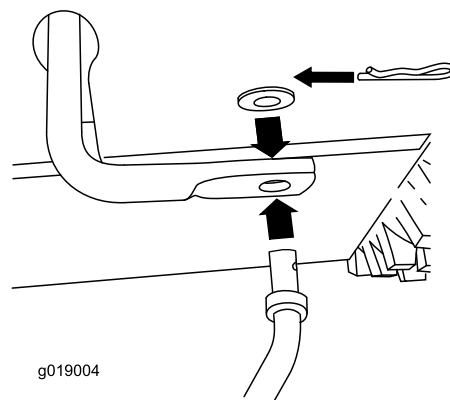

Figure 4
1. Remove the hairpin cotter and washer from the lower end of the speed control rod and insert the lower end of the rod into the lower link arm so that the bent end of the speed control rod faces rearward (Figure 4).